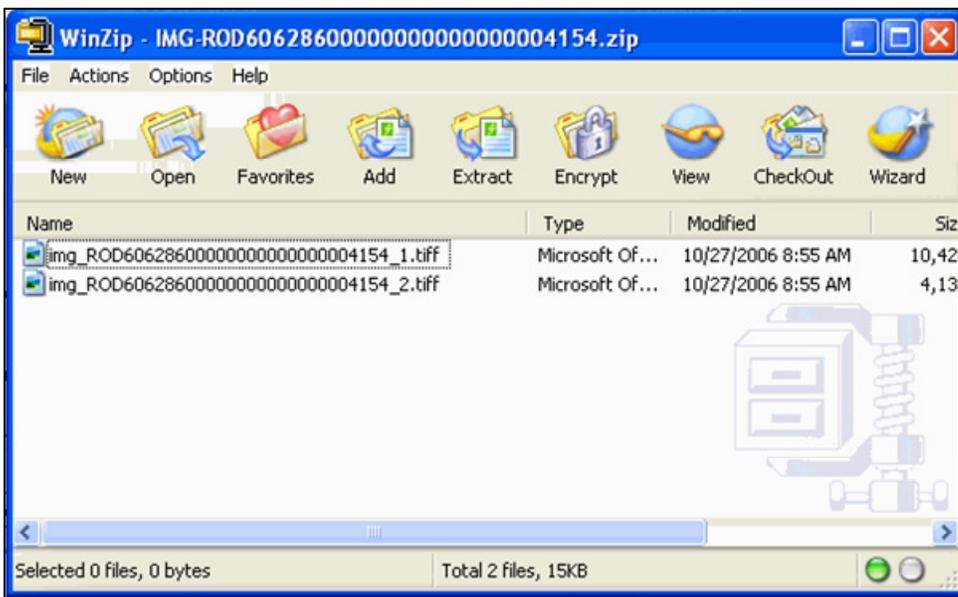

Figure 5.32.6
3. Click the 'Open' button at the bottom of the window. A WinZip window opens (Figure 5.32.6). There are two image files listed in the example: the first zip file is the image file for the front of the check, and the second zip file is the image file for the back of the check.